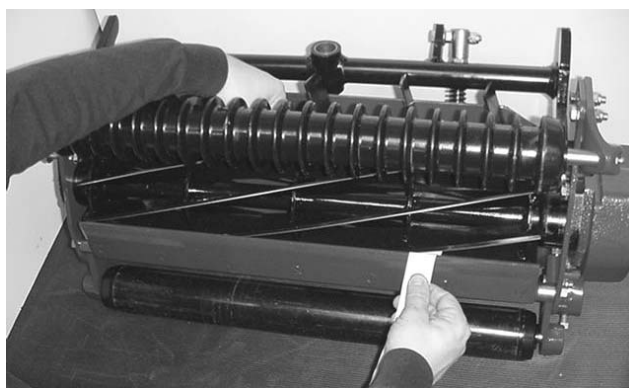

Figure 10
1. Rotate cutting unit backward to gain access to the reel and bedknife (Fig. 10).
4. Insert 1" (25 mm) wide piece of newspaper perpendicular to the bedknife, and then rotate the reel slowly in the mowing direction to see if the reel cuts the paper – do this on both ends of the bedknife (Fig. 10).